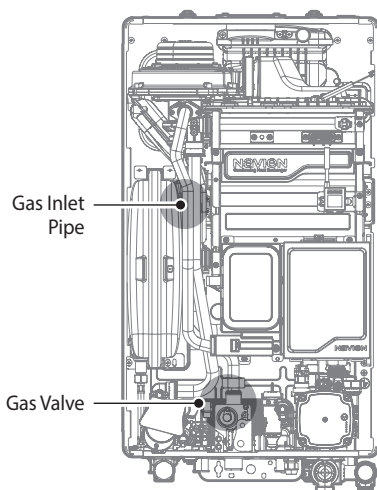

Figure 2. NCB300 Internal Components
8. With the internal components exposed, locate the gas inlet pipe and the gas valve in the middle of the unit, as shown in Figure 2.